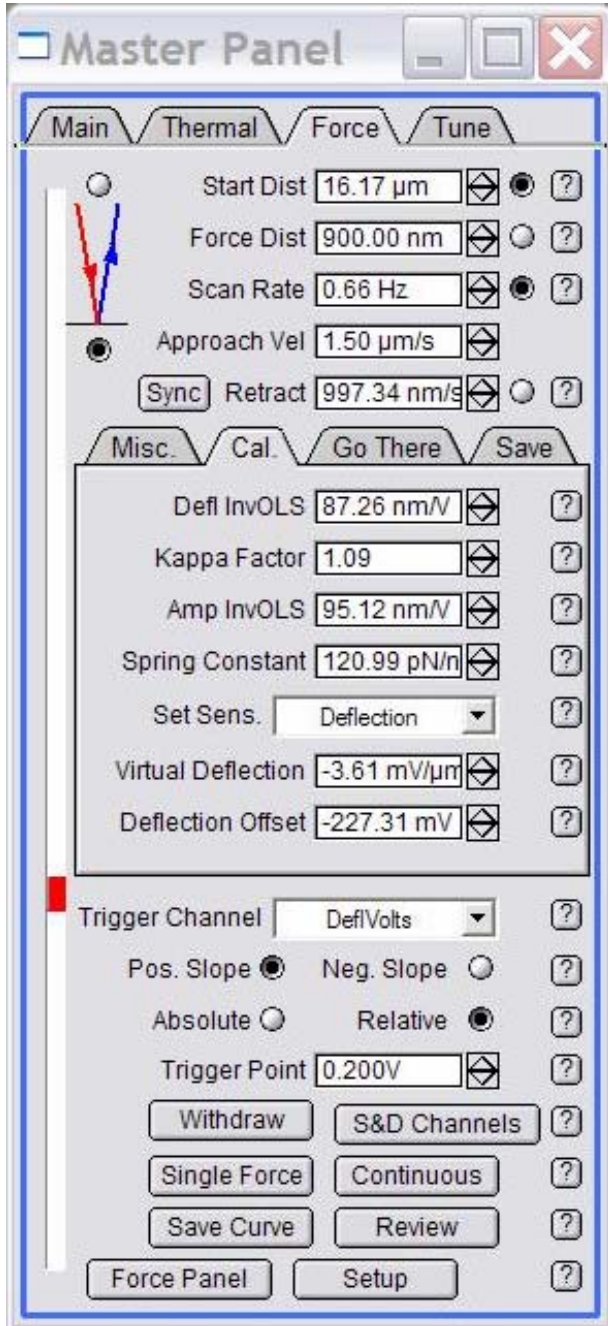

Figure 9: Force Tab of Master Panel
- ✓ Click on the *Force* Tab of the Master Panel (Figure 9): This panel is set up so the user can define the specific distance the piezo travels during the force-distance cycle (called 'Force distance' in Force tab).
- ✓ Enter a 'trigger' point value of 0.2 to 0.4 V. *Most other parameters in Figure 9 are not important at this point.*